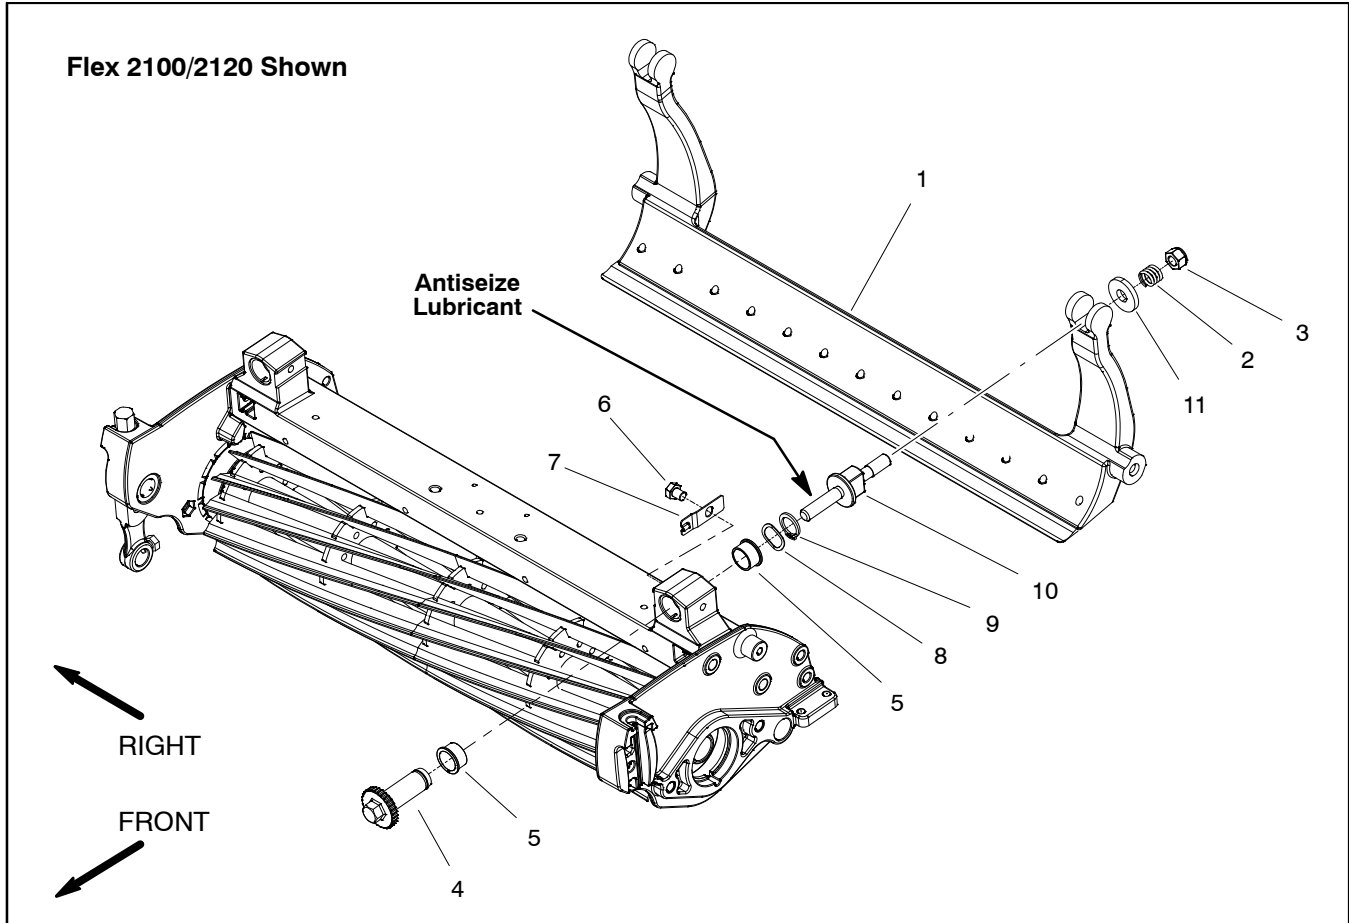
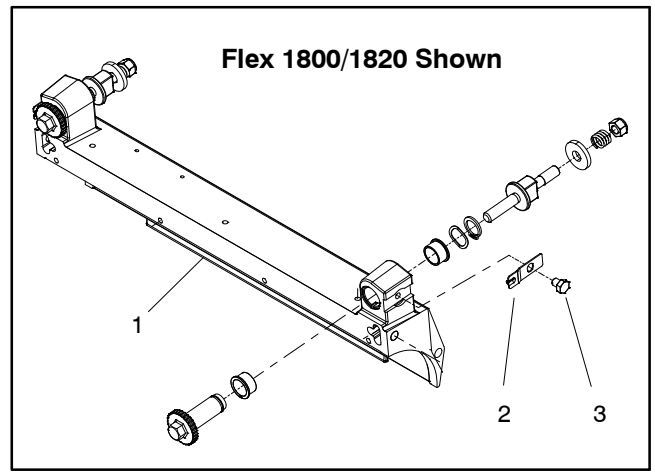

Figure 25
Figure 26
NOTE: The detent (item 7) used on Flex 2100/2120 is toward the center of the cutting unit as shown in Figure 25. On Flex 1800/1820 cutting units, the detent is mounted on the outside of the cutting unit crossmember (Fig. 26). Cutting unit service procedures are the same on both models.
Removal (Fig. 25)
Installation (Fig. 25)